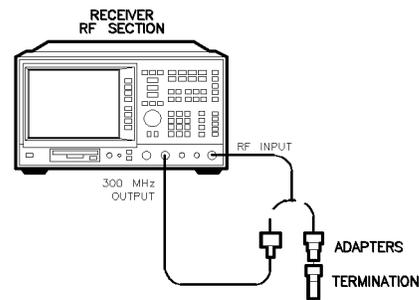

Figure 2-19. Displayed Average Noise Level Test Setup
1. Connect a cable from the CAL OUT to the INPUT 50 Ω of the receiver as shown in Figure 2-19.